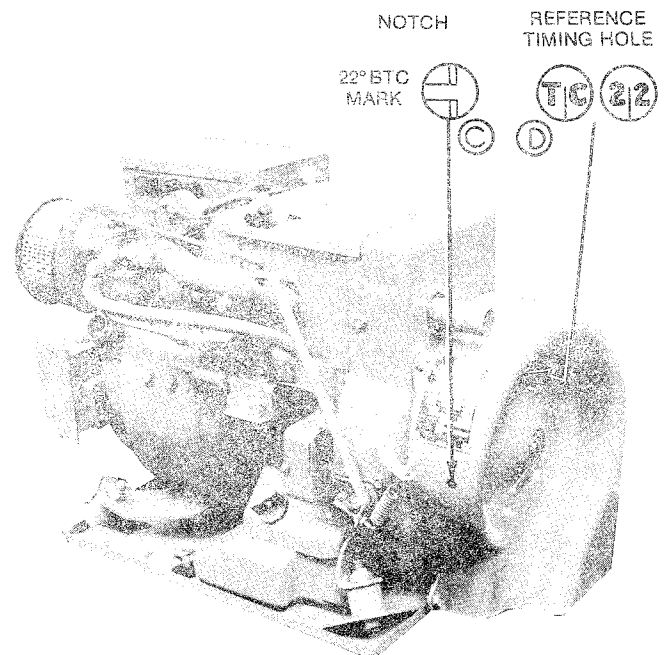

FIGURE 4. IGNITION AND TIMING ADJUSTMENTS
Ignition points should break contact at 22° BTC (see Figure 4). Proper 22° BTC timing is obtained by setting breaker points and checking with a timing light.
1. Turn engine over slowly in a clockwise direction until the TC mark appears in the middle of the window "D" (Figure 4). Turn slightly beyond this point to ensure points are fully open.